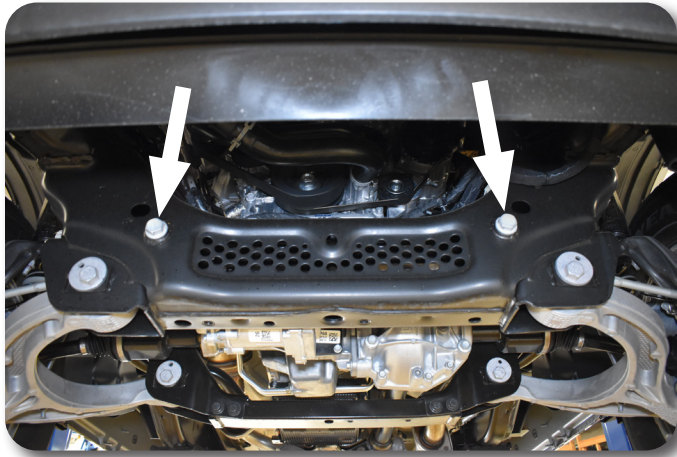

Figure 14
37. Support the steering rack and remove the two mounting bolts at the front cross-member. Save for reinstallation. Fig. 14